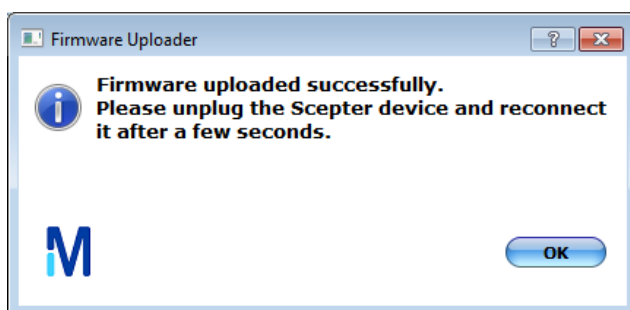

Figure 32. Successful upload dialog box
6. When the installation is complete, a dialog box appears confirming that the firmware upload has been successful. Click **OK**, unplug the Scepter device, and reconnect it after a few seconds (Figure 32).